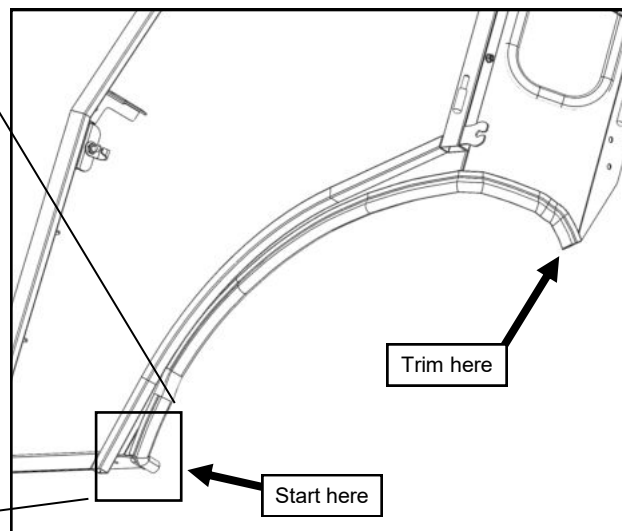

Fig. 3.5 (Frame Bulb Rubber)
- 3.5 Per figure 3.5, attach the bulb rubber to the frame/rear leg assembly, starting at the front. Trim the excess rubber at the edge of the rear leg.